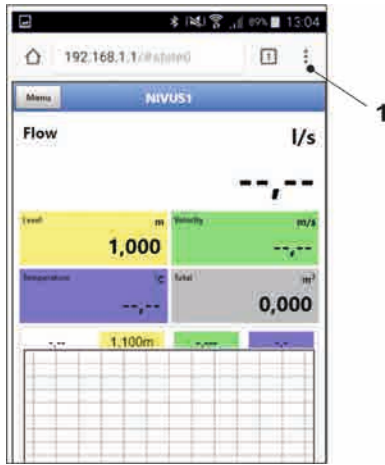
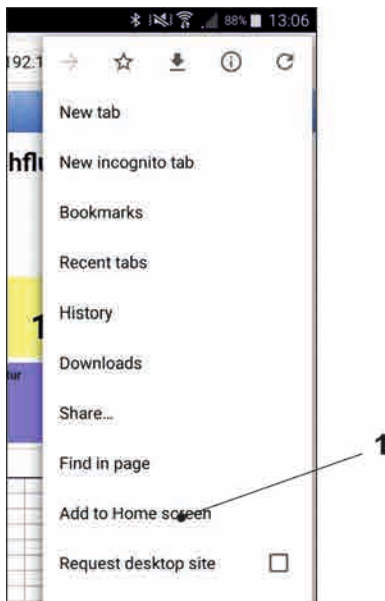

Fig. 31-6 NFM display in browser
Fig. 31-7 Add to Home screen
7. Type "192.168.1.1" into the IP address field and open. The NivuFlow Mobile display (Fig. 31-6) is indicated as soon as the connection has been established successfully.
8. To set a link on your "Home screen" (for direct access) use the "Tabs and Settings" symbol (Fig. 31-6 no. 1) and select "Add to Home screen" (Fig. 31-7 no. 1).